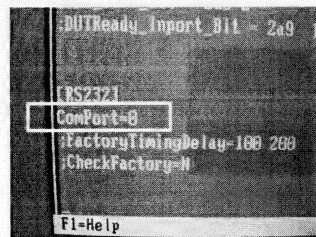

Fig. 10
- Check ComPort setting as shown in Fig. 10 for RS232 (9 pins) cable.